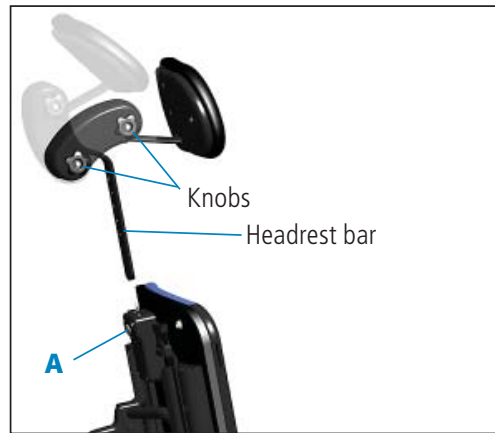

Figure 17a
To install headrest, and adjust headrest height, depress white button (A), insert metal headrest bar and raise or lower it to desired setting. Release button and make sure headrest clicks into place (see Figure 17a).
To adjust depth and angle of headrest, loosen both black knobs (see Figure 17a). Move headrest to desired position and tighten both knobs securely.